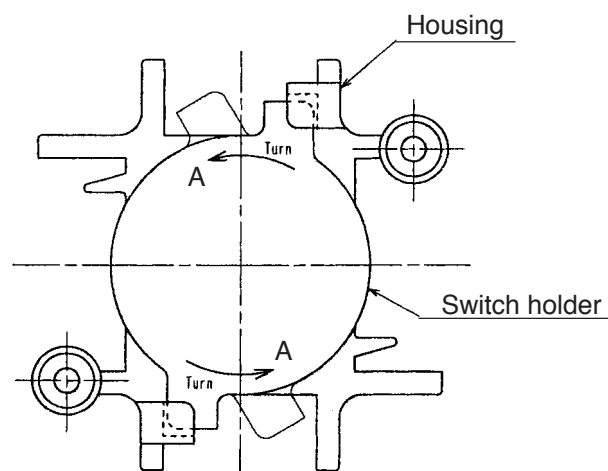

Fig. 7
2. Turn the Switch Holder [45] <51> for the Housing [37] <43> in the arrow "A" direction and remove the Switch Holder [45] <51> from the Housing [37] <43>. (See Fig. 7.)